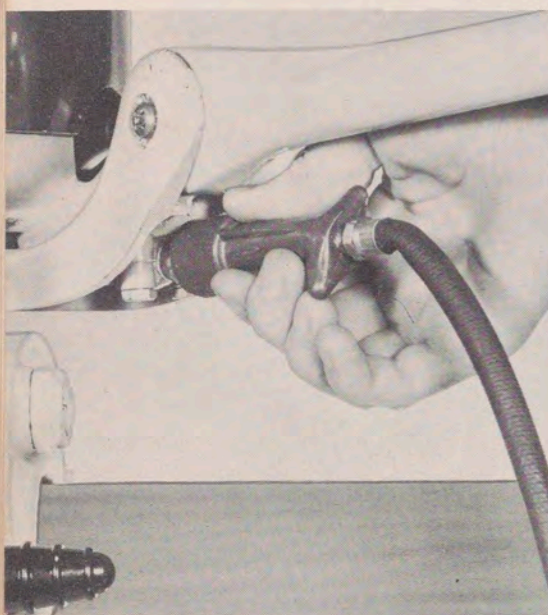

Figure 7
2-5. INSTALLING FUEL TANK. Set the fuel tank in approximate correct position in bottom of boat. Connect the fuel line to motor by inserting the twist connector into receptacle on left front side beneath handle bracket. (See Figure 7.) Lock by turning $\frac{1}{4}$ turn clockwise. Determine the most favorable position of the fuel tank, bearing in mind the importance of arranging the fuel line in such a manner that it cannot become pinched, kinked, sharply bent or stretched during operation of the motor. Check with the motor in extreme left and right turn positions. Secure tank to bottom of boat.
3. Connect fuel line to motor by inserting twist connector into receptacle beneath handle. Lock by twisting $\frac{1}{4}$ turn clockwise, as shown in Figure 7. Be sure connector is securely attached.